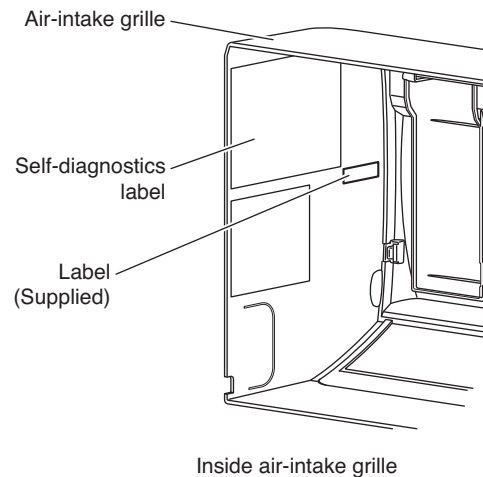

Fig. 9
(11) Reinstall the electrical box cover.
(12) Apply the supplied label close to the self-diagnostics label on the inside of the removed air-intake grille. (Fig. 9)